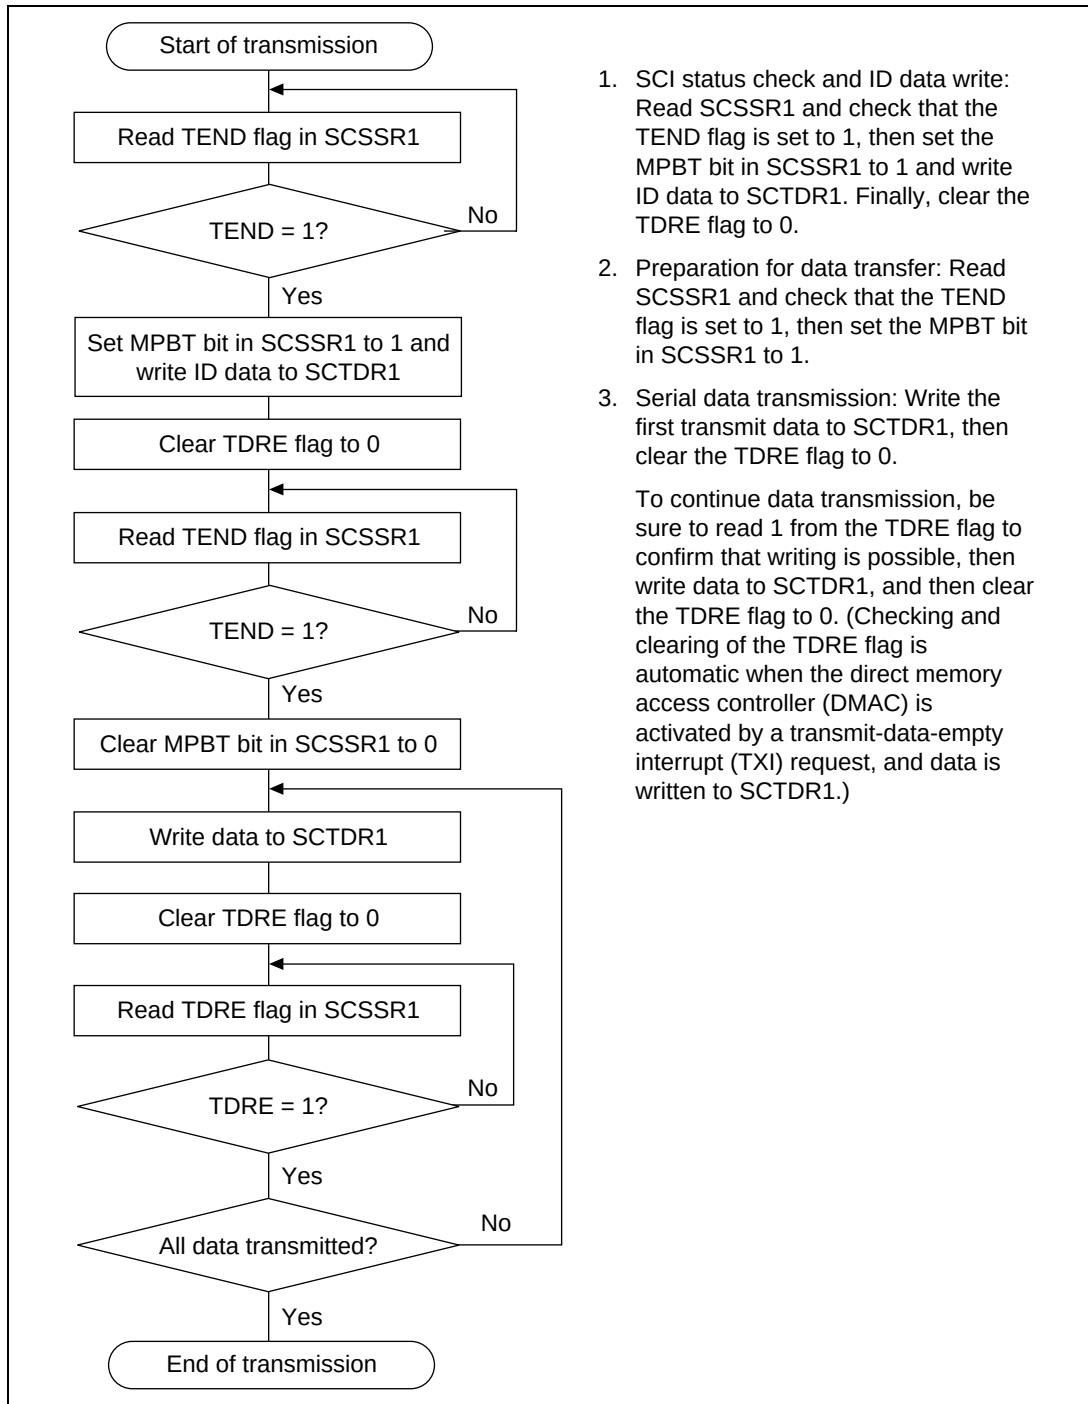

**Figure 15.13 Sample Multiprocessor Serial Transmission Flowchart**
**Multiprocessor Serial Data Transmission:** Figure 15.13 shows a sample flowchart for multiprocessor serial data transmission.